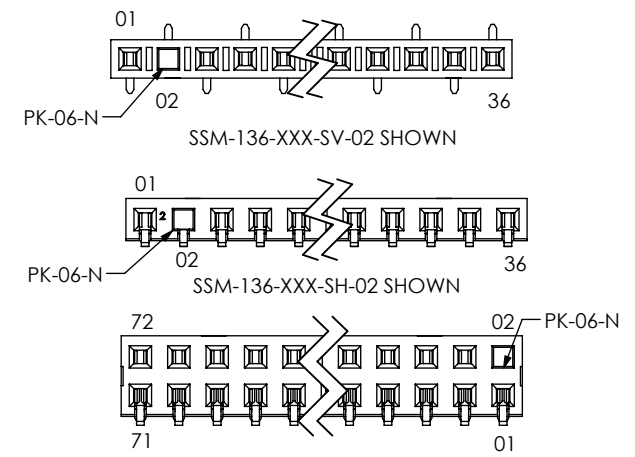

FIG 7
- XX: POSITION TO BE POLARIZED (USE PK-06-N, SEE FIG 7, SHT 3 FOR POLARIZATION POSITIONS) (NOT AVAILABLE FOR -BE OPTION)